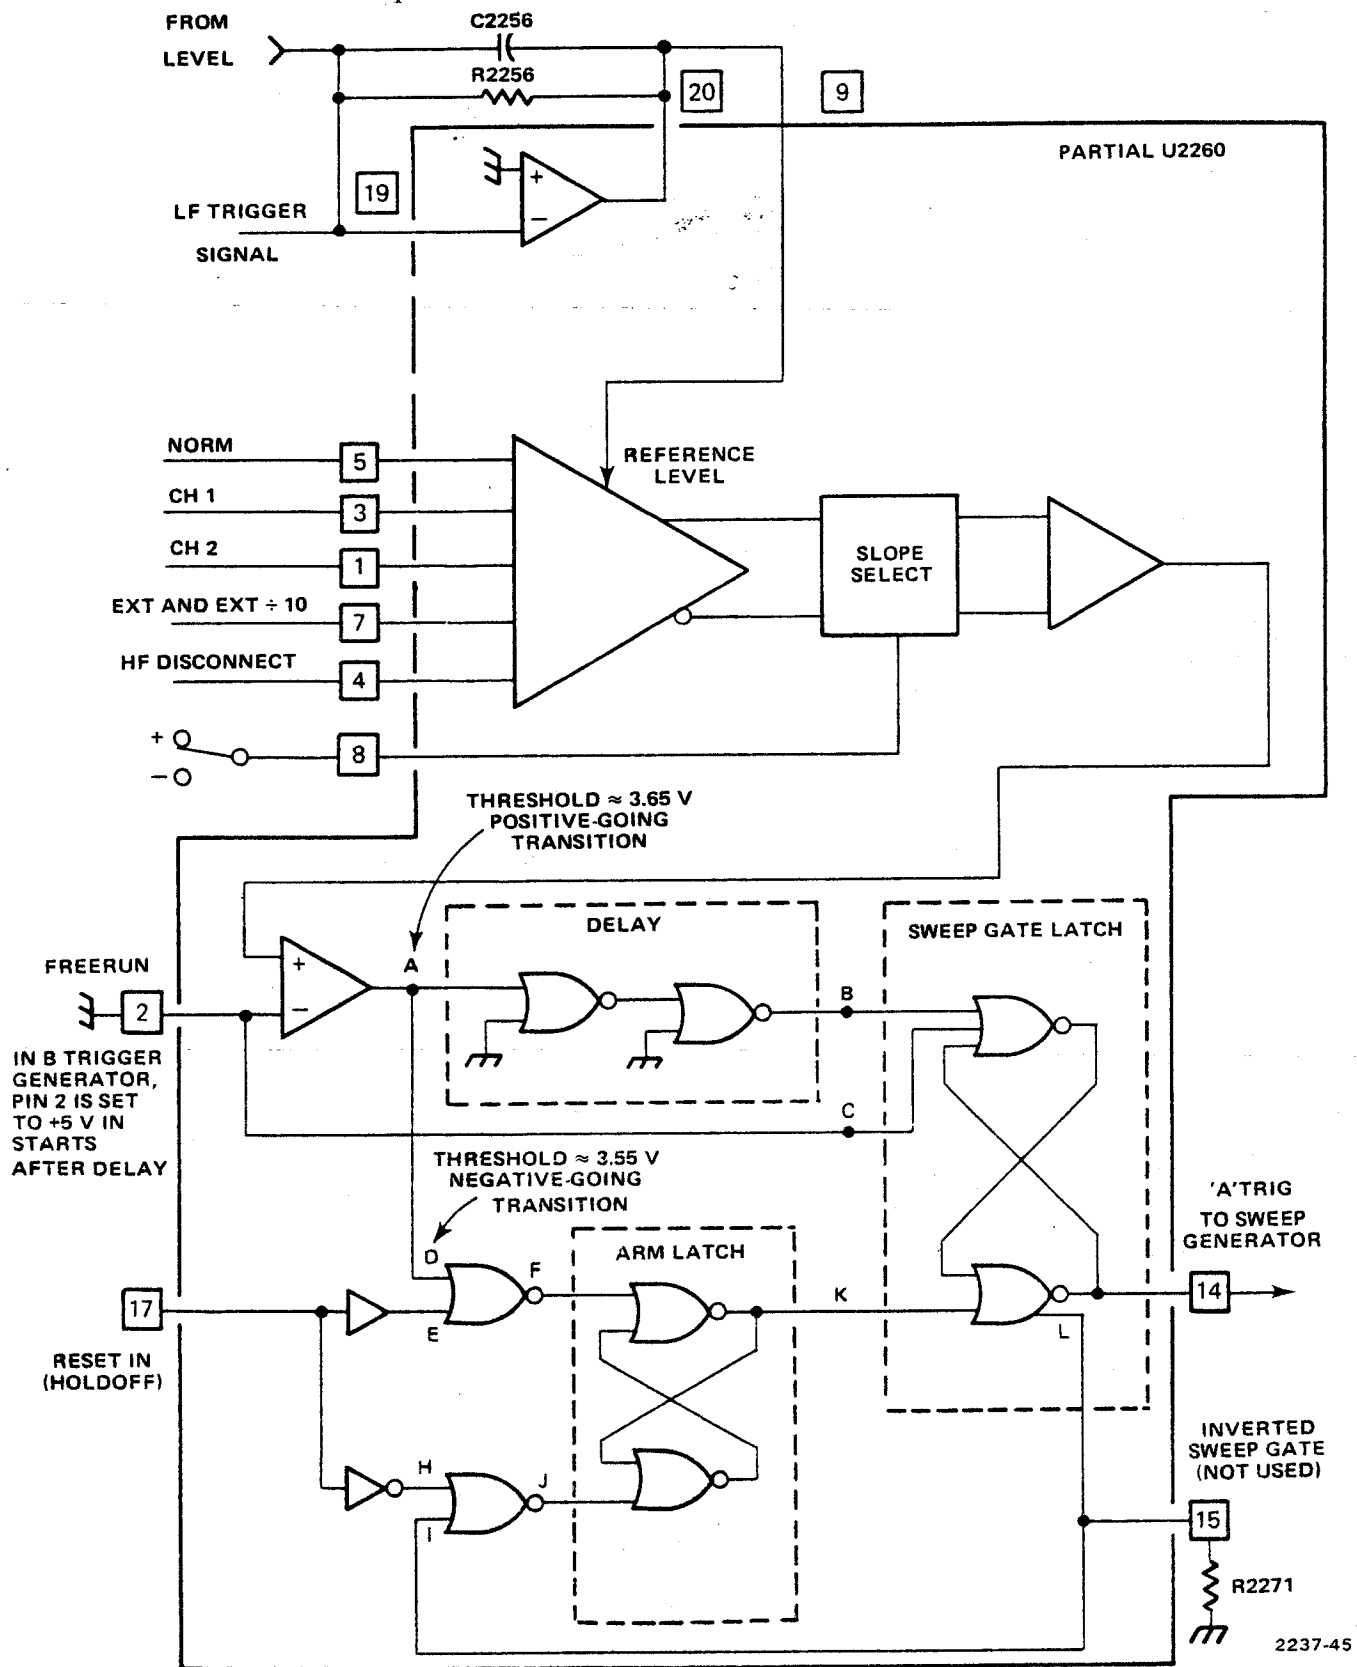

Figure 4-5. A trigger generator.
(2) **A Trigger Generator.** The A Trigger Generator consists of U2260 and associated circuitry. Figure 4-5 shows a simplified diagram of the A Trigger Generator.
(a) **Sequence of Events During Trigger Generation.** The following discussion will follow the sequence of events in the A Trigger Generator. Refer to Figure 4-5 throughout the discussion.
(b) Slope Selection. The slope of the trigger input signal, on which a sweep gate is generated, is determined by the voltage connected to pin 8 of U2260. When the voltage is negative, the signal at point A is inverted (see Figure 4-5).
(3) **B Trigger Generator.** The B Trigger Generator operates in the same manner as the A Trigger Generator except in the STARTS AFTER DELAY position of the HORIZ DISPLAY switch. In the STARTS AFTER DELAY mode, +5 volts is connected to pin 2 of U2160 through S2100 and S2650 (see Figure 4-5). This disconnects the trigger signal from point B, sets point D LO, and sets point C HI. At the end of holdoff, point E goes LO causing point F to go HI. This sets point K LO and, because of the HI always present on point C, causes a sweep gate to be generated.